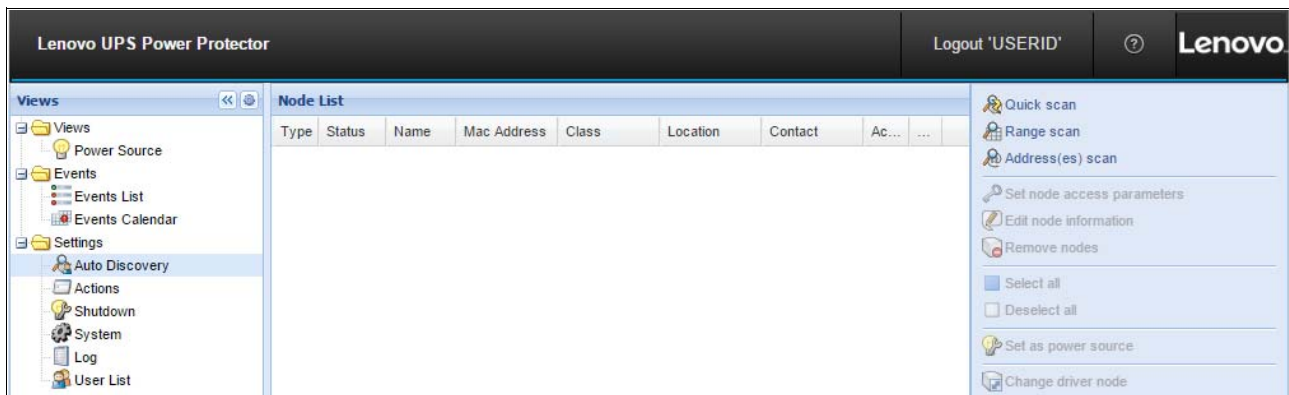

Figure 9 Lenovo UPP web interface
5. A web browser is launched to the UPP web interface, Figure 9.